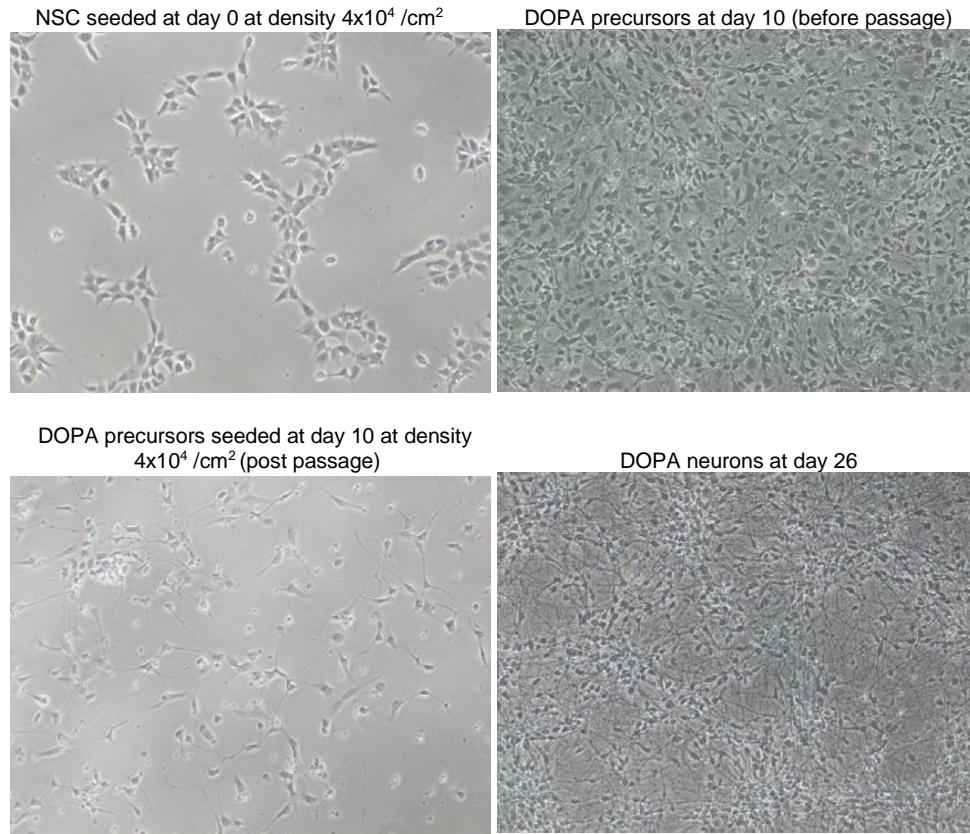

Figure 3. An example of NSC, DOPA precursors and DOPA neurons densities at different stages of differentiation using DOPA Induction and DOPA Maturation Media.
3.2.1 At **day 0**, seed NSC onto poly-L-ornithine/Laminin coated vessels at density ranging from 4×10^4 to 6×10^4 live cells /cm² in culture medium used for NSC (Figure 3).